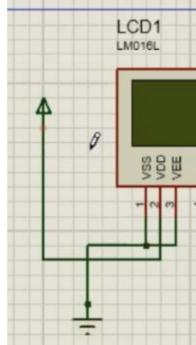

Figure 18: You need to connect VDD port of LCD to VCC and you need to connect VSS and VEE port of LCD to the ground.
7. Make sure to connect ground and VCC ports to the LCD. You need to connect VDD port of LCD to VCC and you need to connect VSS and VEE port of LCD to the ground as shown in Figure 18. To find voltage and ground, go to the left of the page and click on **TERMINALS** button to find VCC and ground pins, then click on them and drag them to the project as shown in Figure 19. From the left side as shown in Figure 19, you also can find other objects as well such as virtual oscilloscopes, serial ports, resistors etc.